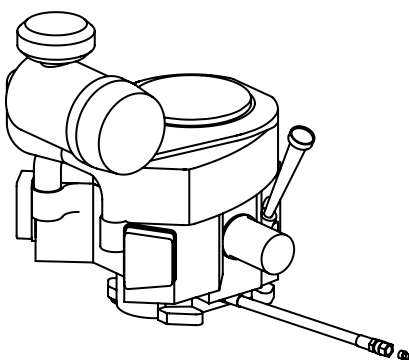

Figure 4-4
2. Locate the oil drain hose on the engine. See Figure 4-4.
5. While holding the free end of the oil drain hose over the oil collection container, unscrew the square-head hose plug from the end of the hose. See Figure 4-4. Drain the engine oil into the collection container.